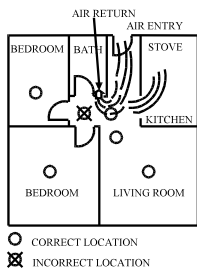

Figure 6:
- Air streams passing by kitchens may affect how a smoke detector senses combustion particles. **Figure 6** graphically indicates the correct and incorrect location of smoke detector with normal air flow in a building.